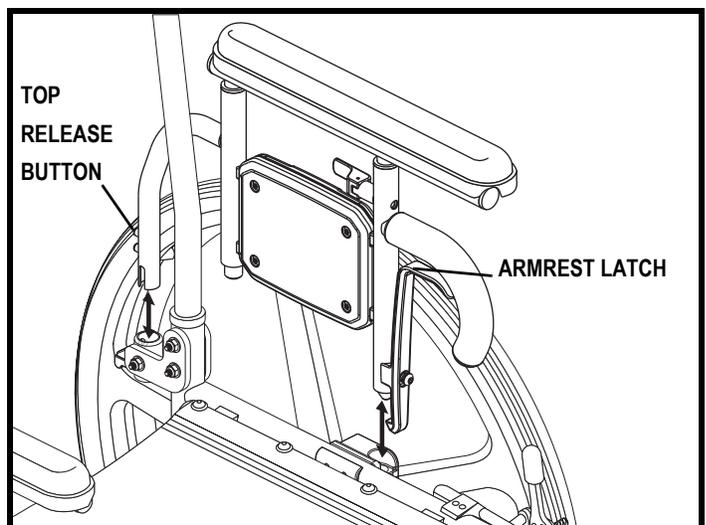

Figure 36. Dual-post Armrest Removal
1. Pull back the armrest latch located on the armrest. See **figure 36**.